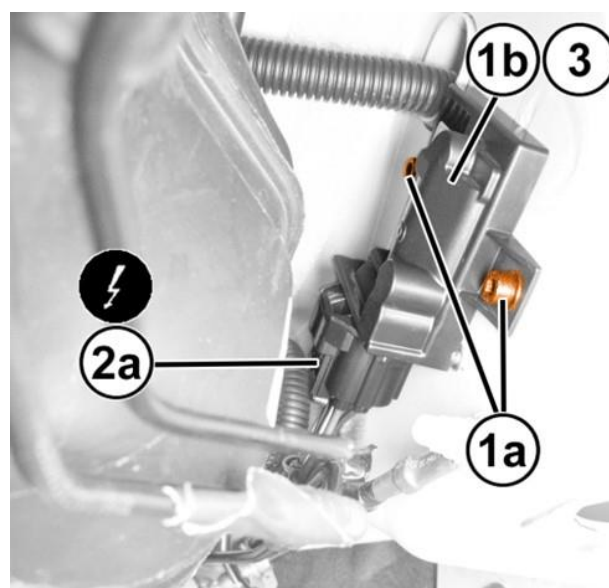

Figure 13 – Electronic Control Unit
25. Working on the left area of the fuel tank, remove the screws (1a) and move the ECU (1b) enough to gain access to the wire harness connection (Figure 13).
27. Remove the ECU (1b) (Figure 13).